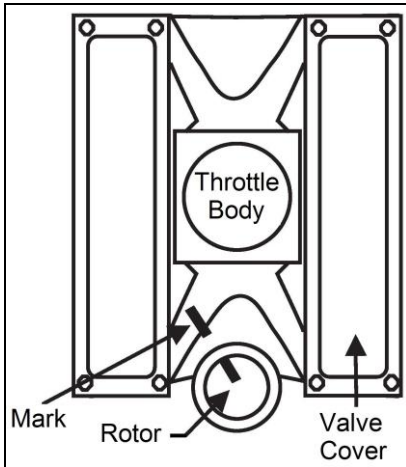

Figure 1 – Marking distributor location
3. With the cap off, turn the engine over until the rotor is aimed at a fixed point on the engine or firewall. Note this position by making a mark (Figure 1).